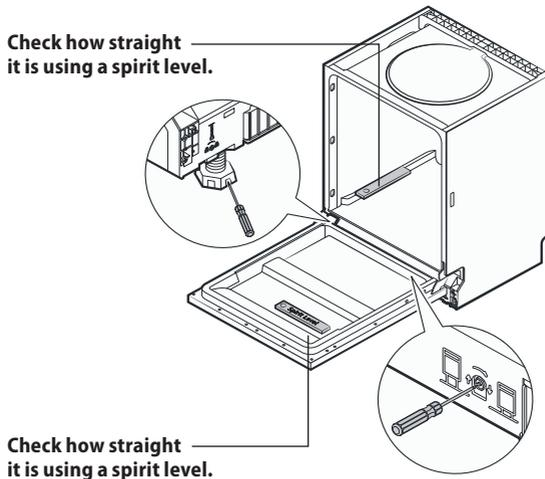

Fig. 16
8. Use the feet at the front and back of the appliance to level it to a horizontal position. Adjust the back feet by turning the screw on the bottom of the front side of the appliance (step 5). Adjust the front feet by turning screws located near the feet themselves (step 5B). Use a spirit level Fig. 16).
2. Place a spirit level on the fully opened door and in the interior of the appliance (Fig. 16). Make sure the dishwasher is in a horizontal position.